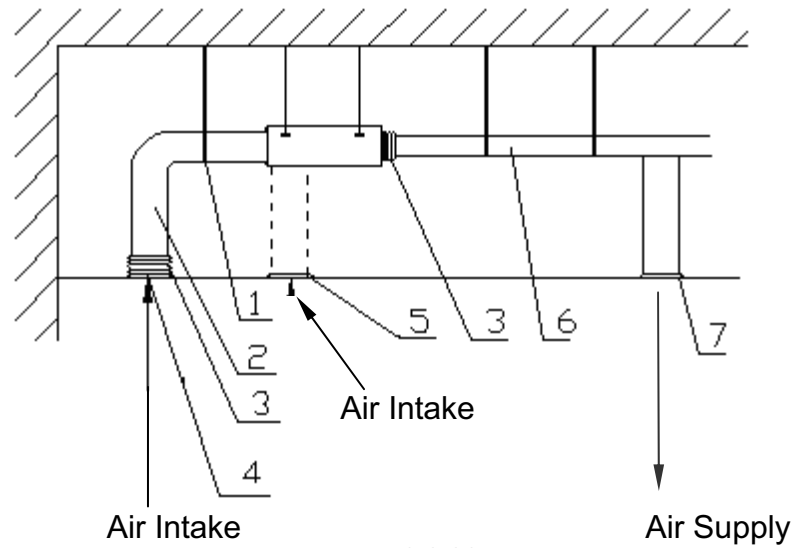

Fig.1.1.11
- ◆ Installation of Rectangular Air Duct as shown in Fig.1.1.11